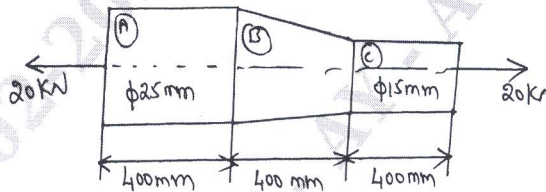

Fig Q1(b)
- b. Find the extension of the bar shown in Fig Q1(b) under axial load of 20kN  $E = 200\text{GN/m}^2$ .